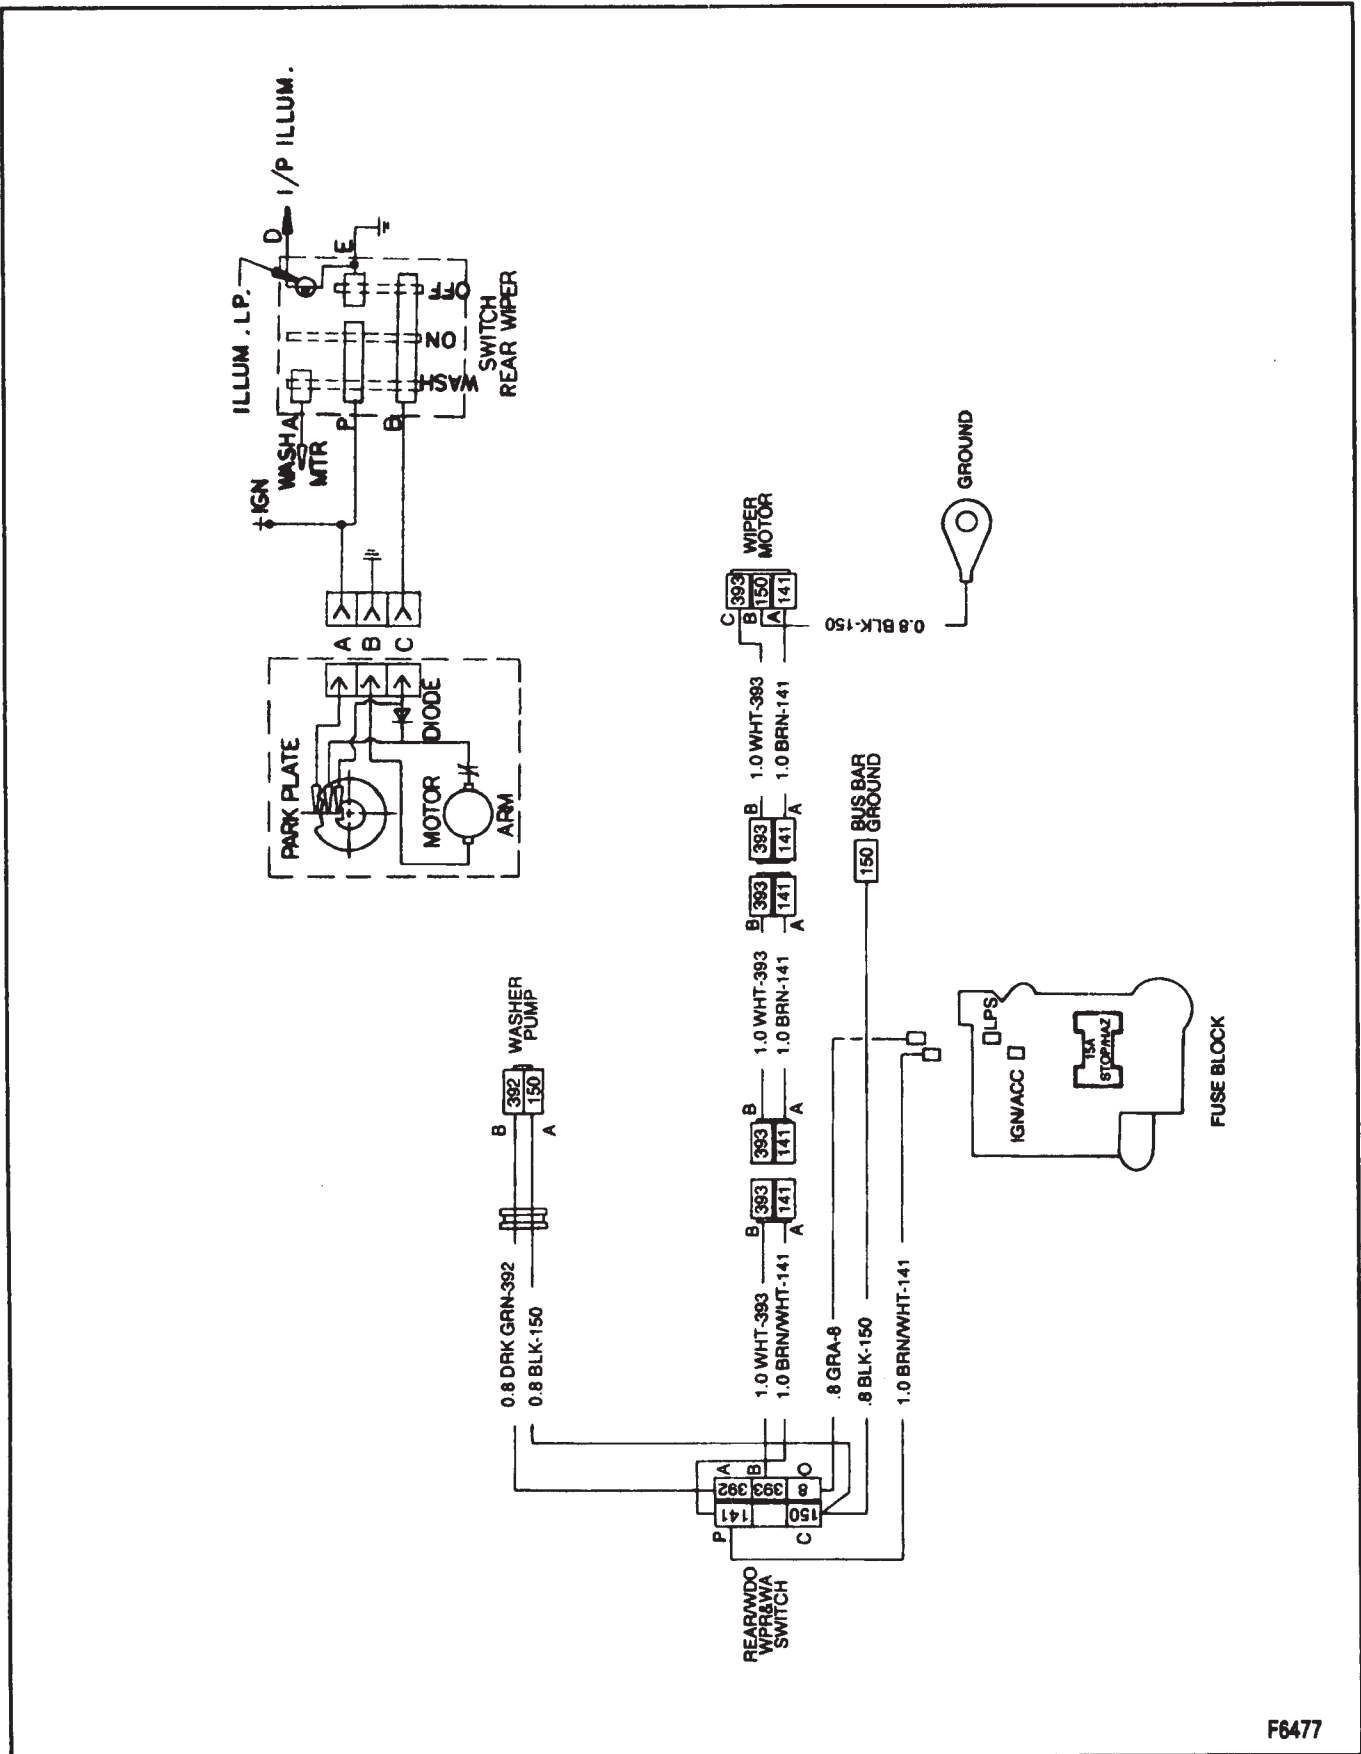

Figure 21—Rear Wiper Washer Schematic
With the wiper/washer switch in the run position, battery voltage is supplied to terminal (C) of the wiper motor. The ground circuit is provided through terminal (B) and is grounded back through the switch. When the wiper switch is turned to the off position, terminal (A) is positive and the circuit is completed through the park plate. A cam gear on the plate opens the circuit at the park position allowing the wiper to park at the proper location. Refer to figure 21.
1. Disconnect the wiring harness and apply (+) 12V to terminal (C) of the wiper motor. Ground terminal (B) of the wiper motor. The wiper motor should run. Refer to figure 21.
2. Test for proper park operation by applying (+) 12V to terminal (A). Ground terminal (B). The wiper motor should go to the park position and shut off. Refer to figure 21.
With ignition switch in the "RUN" position, harness connected, back probe the connector to the dash switch. All voltage readings must be taken with a good vehicle ground. Refer to figure 21.